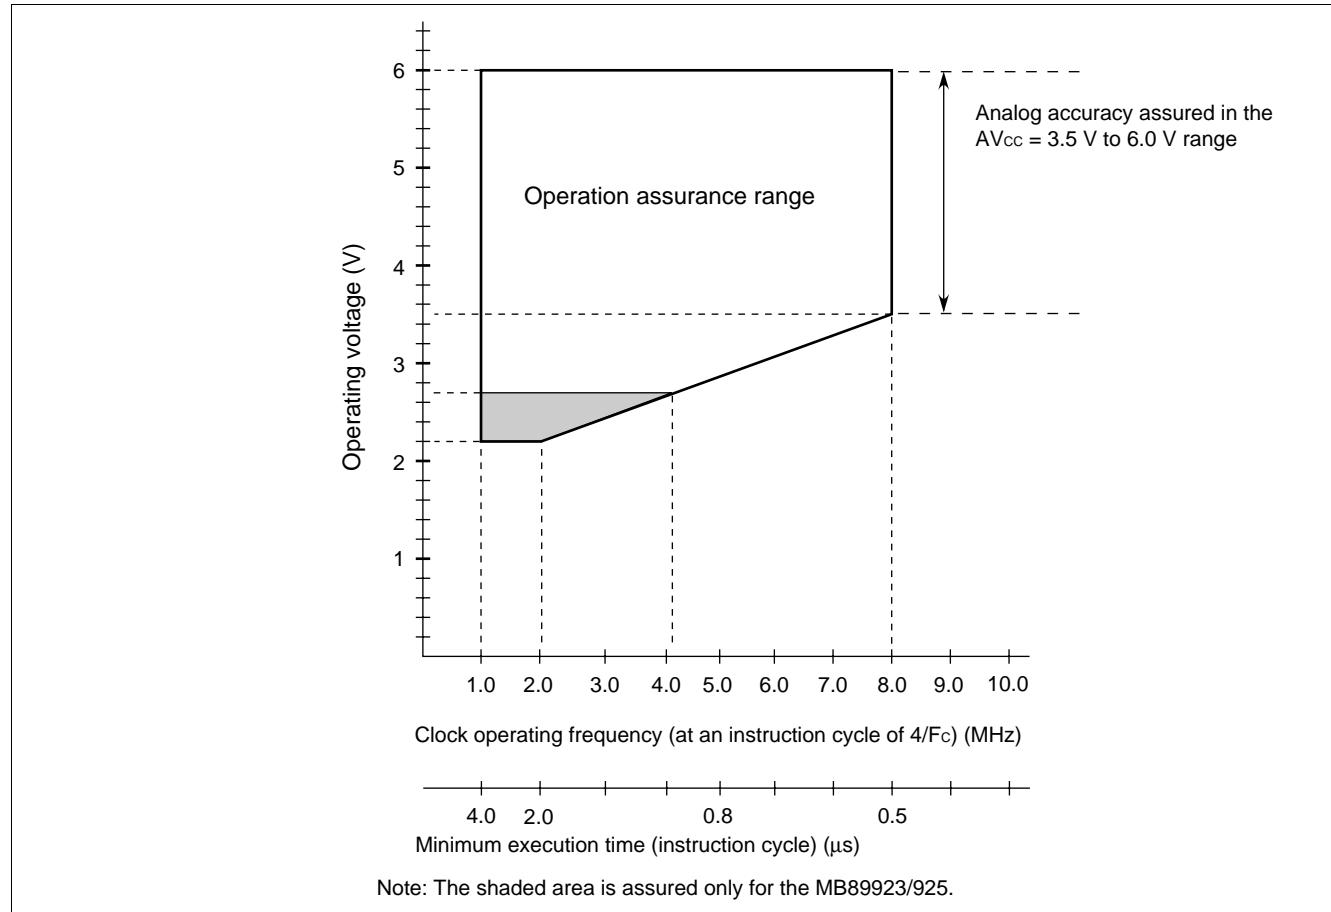

Figure 1 Operating Voltage vs. Clock Operating Frequency
*1: These values vary with the operating frequency, instruction cycle, and analog assurance range. See Figure 1 and "5. A/D Converter Electrical Characteristics."
Figure 1 indicates the operating frequency of the external oscillator at an instruction cycle of $4/F_c$.